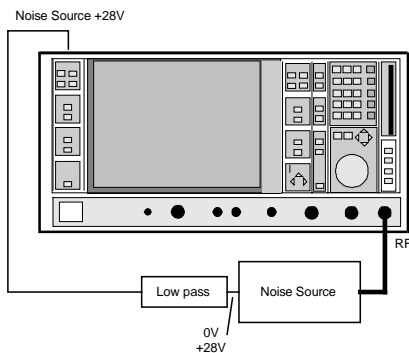

Fig. 2-1 Preparation for calibration
- Connect your noise source to the RF input of the analyzer. (see Fig. 2-1)